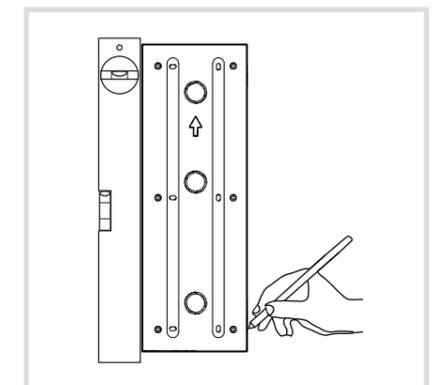

Fig. 14: Drawing on the flush-mounted installation housing
- Hold the installation housing in the correct position at the mounting location with the arrow ↑ pointing upwards, align it with a spirit level and draw it onto the wall (Figure 14).